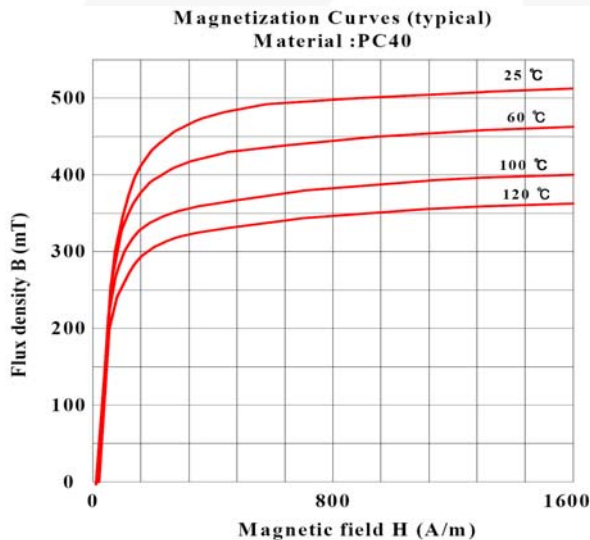

Figure 6. Typical B-H Characteristics of Ferrite Core (TDK/PC40)
The pulse-by-pulse current limit level is included in Equation (19) because the inductor current reaches the pulse-by-pulse current limit level during the load transient or overload condition. Figure 6 shows the typical characteristics of ferrite core from TDK (PC40). Since the saturation flux density ( $B_{\text{SAT}}$ ) decreases as the temperature rises, the high-temperature characteristics should be considered. If there is no reference data, use  $B_{\text{MAX}}=0.3\text{T}$ .